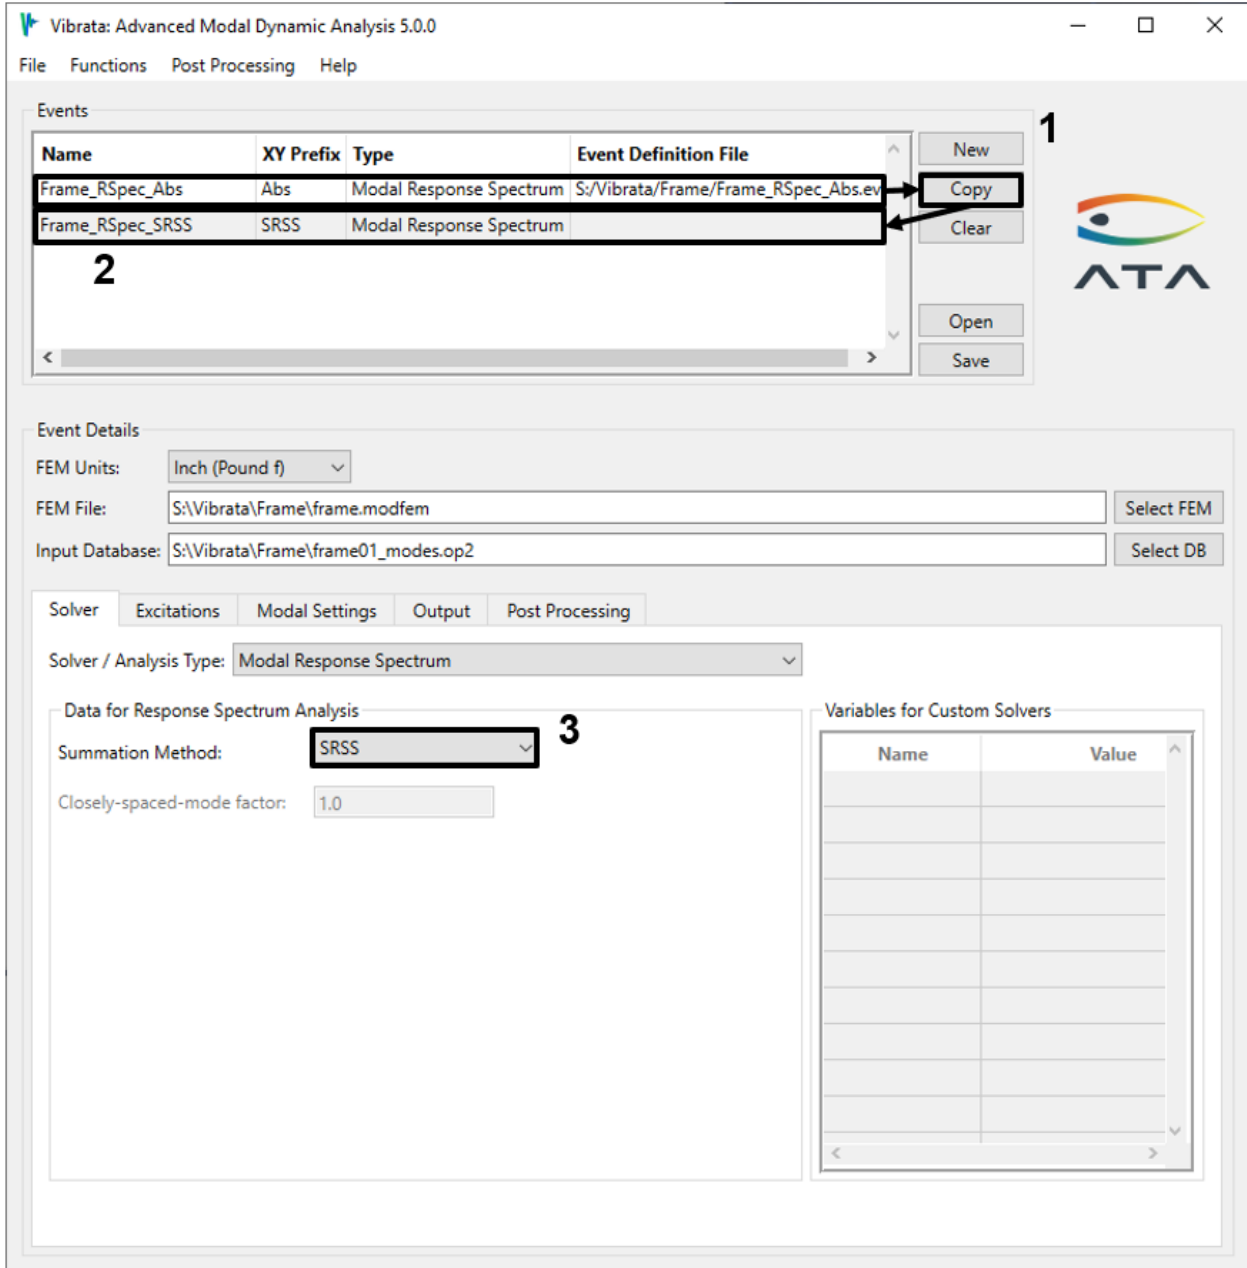

Figure 4-84. Copy the event and change the summation method to *SRSS*.
- Copy this event. Change the summation method to *SRSS* and change the event name to reflect this (Figure 4-84). Solve the *SRSS* event.